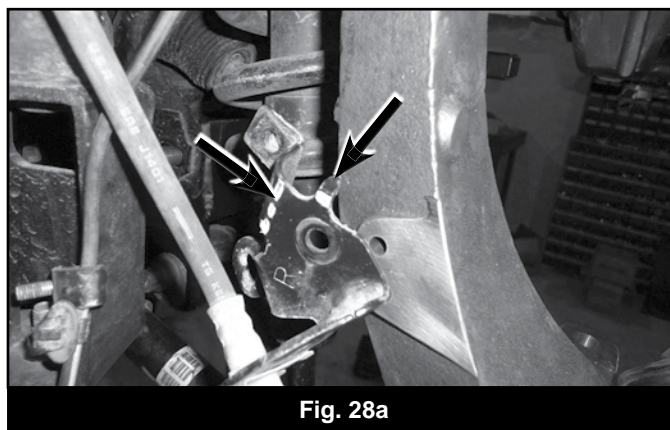

Fig. 28a
59. Trim the two tabs from the brake line mounting bracket. (Fig 28a, 28b)